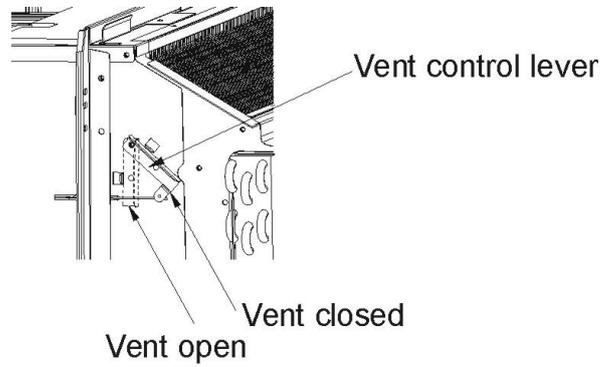

Fig.6
- Rotate the vent control lever to either open or close the vent door.(See Fig.6)
- Rotate the vent control lever to open the vent door. (See. Fig.6)